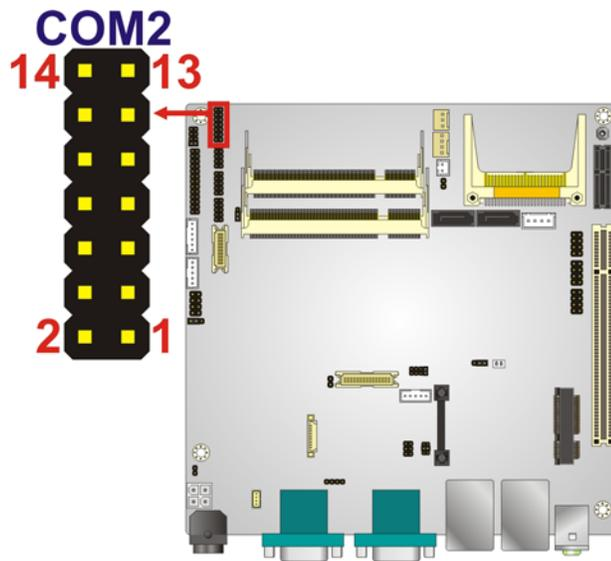

Figure 3-22: Serial Port (COM2) Connector Location
- CN Location:** See **Figure 3-22**